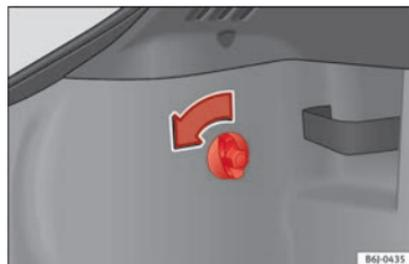

Fig. 105 Access to tail lights.
- Turn the bolt in the direction of the arrow, by hand or with a screwdriver » **Fig. 105**.
- Remove the connector from housing **A** » Fig. 105.